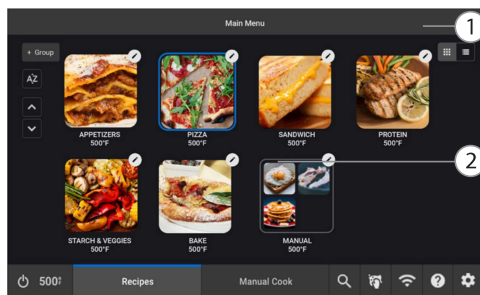

Figure 23: Select Group to Edit
- Touch the Edit button in the top-right corner of the screen (Figure 23, above).
- Touch the Edit Pencil button for the group you want to edit (Figure 23, above).
- Select an option (Figure 23, adjacent column).